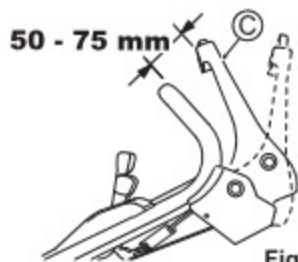

Fig. 13
Adjust so that the blade starts rotating when the distance between Blade lever (C) and the handle is 50 - 75 mm with the yellow button pressed as shown in Fig. 13.